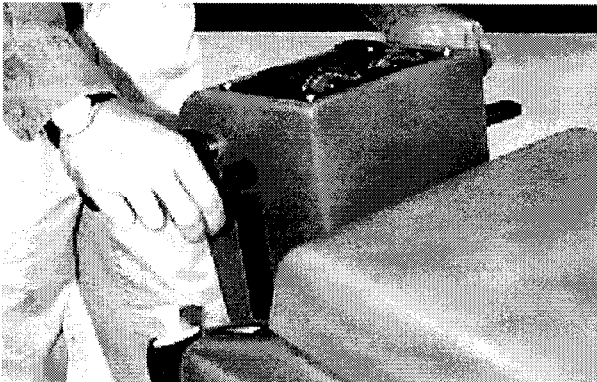

FIG. 14
- Adjust solution flow lever to desired amount. Push lever forward to activate solution flow. Push completely forward for maximum flow (Figure 14).